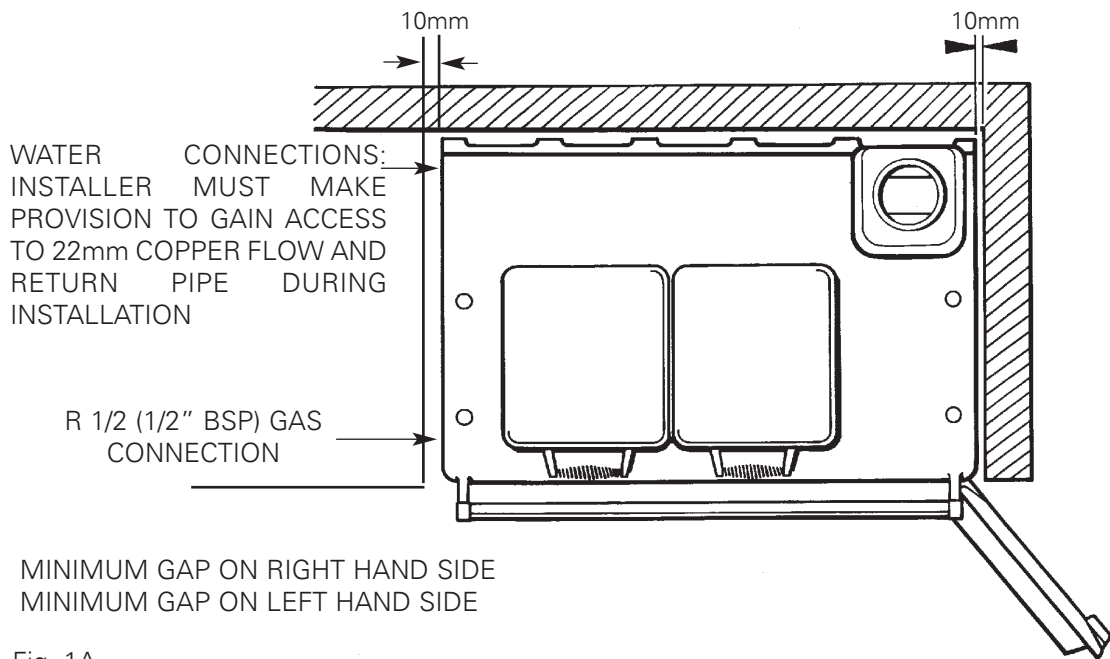

Fig. 1A
SHOULD THE WALL PROJECT BEYOND THE FRONT OF THE APPLIANCE, WHEN IT MUST BE INCREASED TO 50MM (SEE FIG. 1A, 1B).
***SHOULD THE WALL PROJECT BEYOND THE FRONT OF THE APPLIANCE, WHEN IT MUST BE INCREASED TO 50MM (SEE FIG. 1A, 1B).**